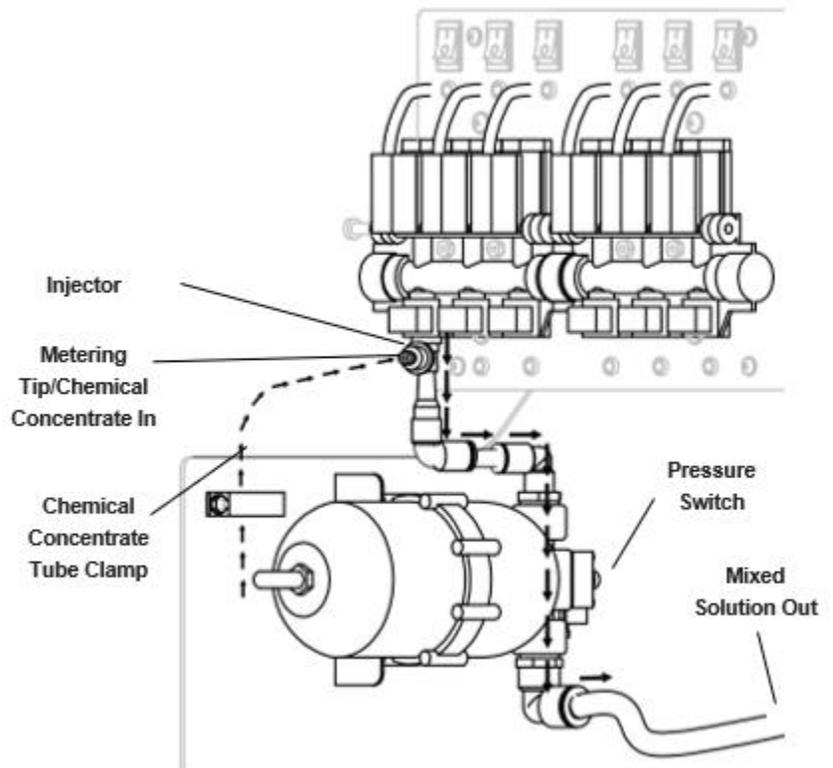

Figure 3.3.2 – Injector Assembly & Tank
4. The open Solenoid feeds High Pressure Water to the associated injector (see Figure 3.3.2) which draws chemical concentrate through the metering tip (see Figure 3.3.3);